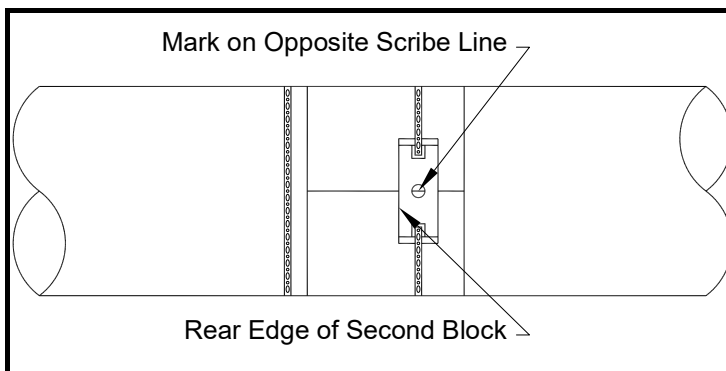

Figure 1-19: Line Up Rear Edge of Bracket with 180° Scribe Line
4. Line up the *other* edge of the CFG-PI holder bracket with the scribe line and tighten the chain or strap, as shown in Figure 1-19 below.